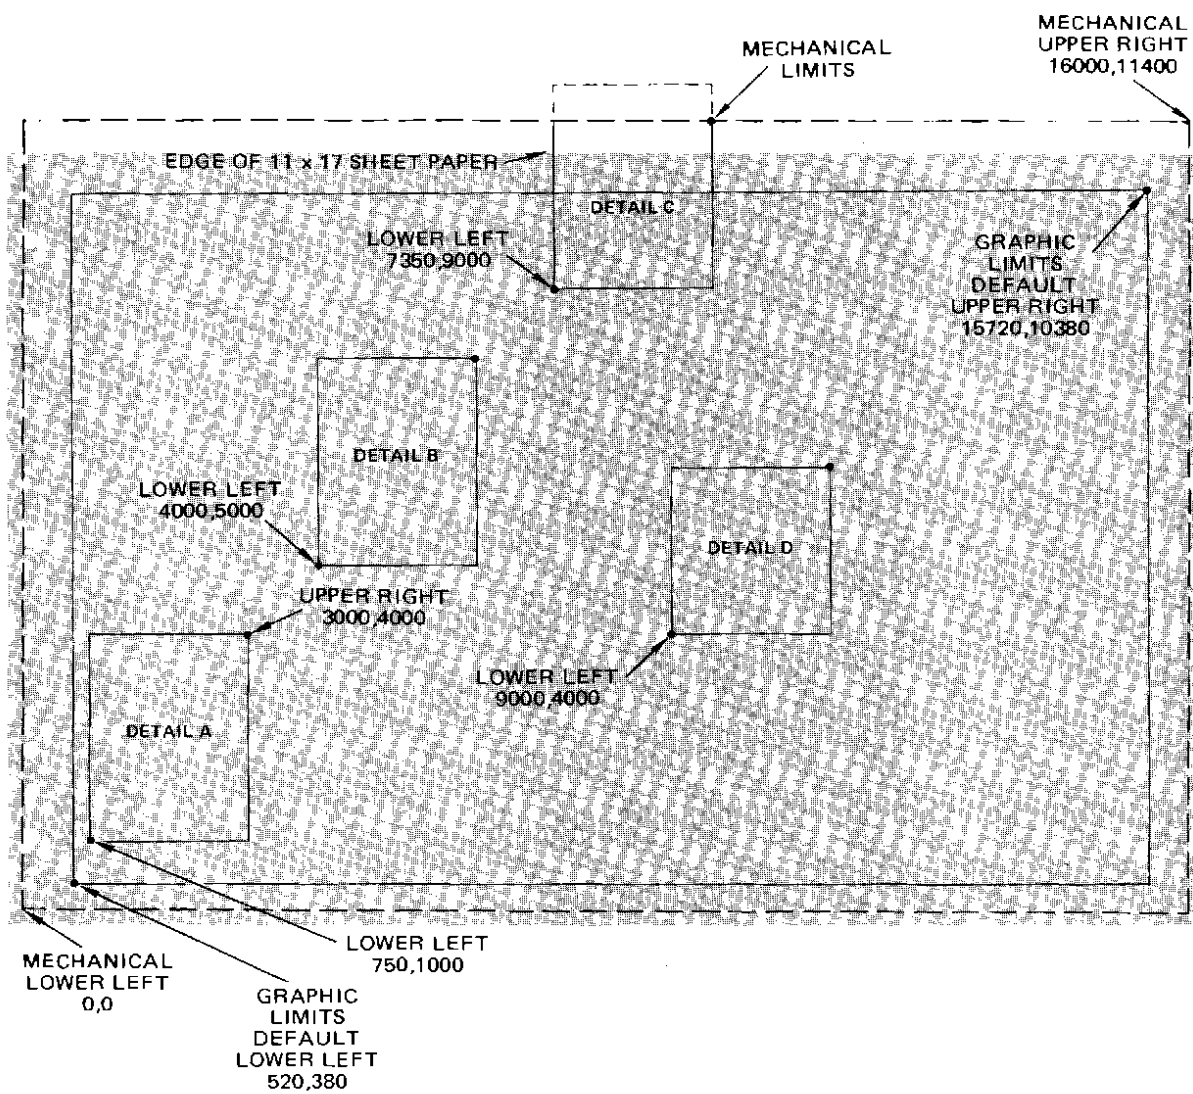

Figure 4-1. Setting Graphic Limits
Result	Establishes the graphic limits shown in Detail A, Figure 4-1. These points can be verified by pressing the <div>LOWER LEFT</div> and <div>UPPER RIGHT</div> controls on the plotter.
**Result** Moves the lower left and upper right graphic limits as shown in Detail B, Figure 4-1. This can be verified by pressing the  and  controls on the plotter.
**Result** Moves the lower left graphic limit as shown in Detail C, Figure 4-1. Note that the upper right limit moved until it reached the Y-axis mechanical limit of 11400 which then becomes the Y coordinate of the new upper right point. The front-panel controls can be used to verify these limits.
In Detail C, Figure 4-1, notice that the position of the upper right, relative to the lower left, has now changed. This new relative position is permanent, even if the lower left is moved down. As an example:
**Result** Moves the lower left graphic limit as shown in Detail D, Figure 4-1. The upper-right limit moves proportionately. The overall graphic area remains “squeezed” as shown in Detail C, Figure 4-1. The front-panel controls can be used to verify these limits.
(LL=520,380 and UR=15720,10380 as shown in Figure 4-1)